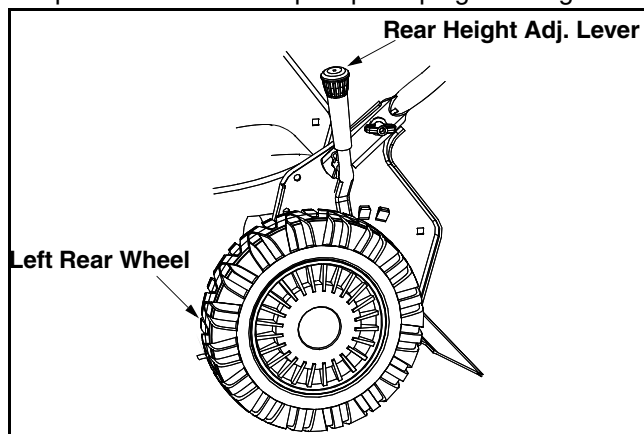

Figure 10
- Pull the rear height adjustment lever out and away from the mower and then move it forward or backward to another slot. For rough or uneven lawns, move the height adjustment lever to a higher position. This will help stop scalping. See Figure 10.